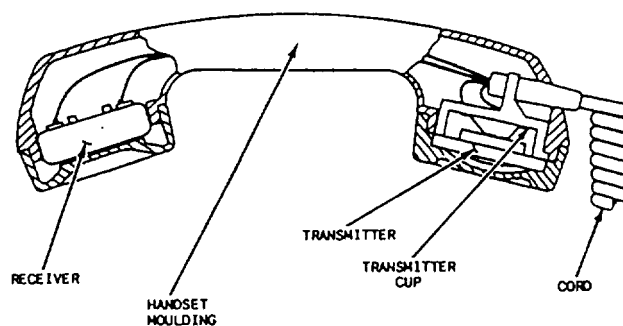

Figure 6-3.—Type G (version 1) telephone handset.
**HANDSET.**— The handset (fig. 6-3) houses the transmitter, the transmitter mounting cup, and the receiver. The handset can be equipped with a standard transmitter or a noise-cancelling dynamic transmitter for use in high-noise areas. By connecting the handset cord terminals to a screw-type terminal board mounted within the telephone set, you can electrically connect the handset to the telephone set.